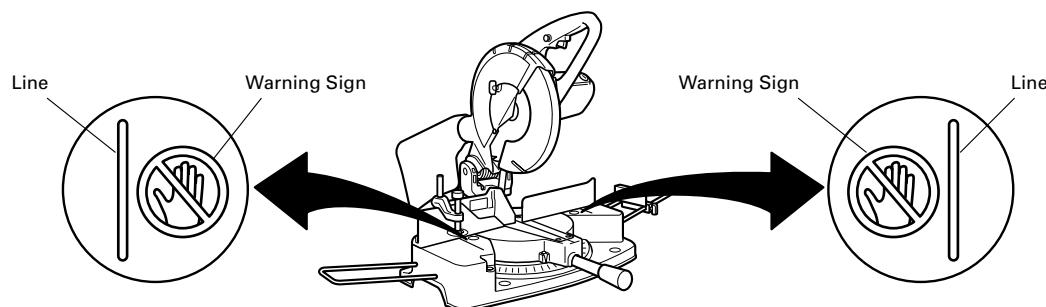

Fig. 14
- * Never place your limbs inside of the line next to warning sign while the tool is being operated. This may cause hazardous conditions (see Fig. 14).